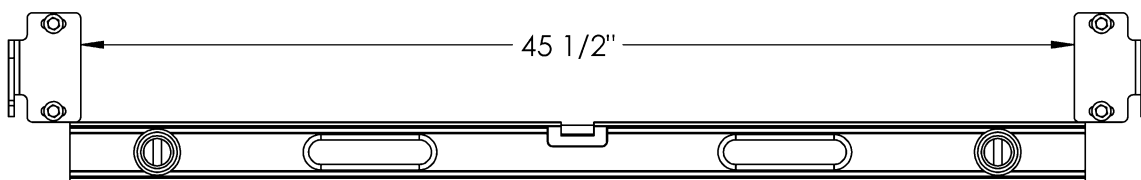

**Figure 3:** Installing the Wall Brackets with Lag Screws
6. Align the wall bracket over the drilled holes so the ear of the wall bracket is facing down and out. Using an impact driver and 1/2" socket, fasten the first upper wall bracket to the wall with two 5/16" lag screws (3) and washers (4) (**Figure 3**).
- Place the 4-foot level against the bottom edge of the first upper wall bracket, span it to the next marked stud 48" away, and mark the wall once leveled (**Figure 3**).